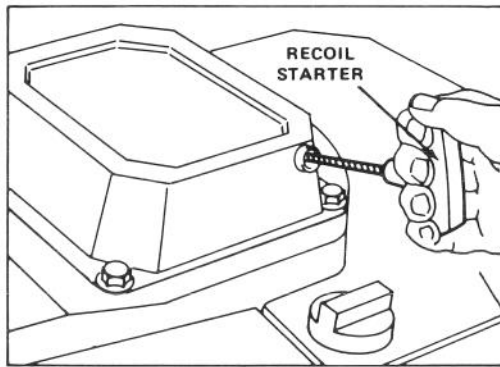

Figure 11
3. **FINGERTIP STARTING** — Move throttle to CHOKE. Pull engine mounted fingertip starter (Fig. 11) and regulate throttle as desired when engine starts.
Note: If battery is discharged, engine can be started with the recoil starter (Fig. 11).